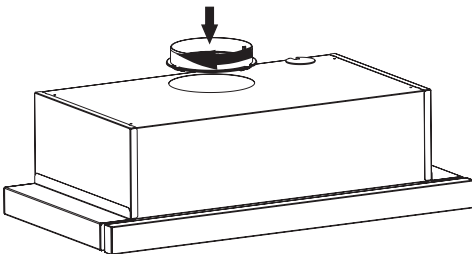

Figure 3
- Attach the plastic exhaust adapter, included in the installation accessories, to the air discharge of the extractor hood (Figure 3).